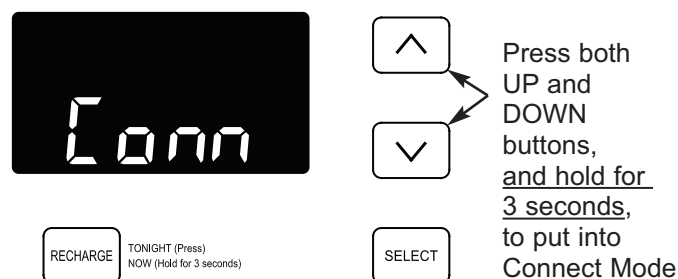

FIG. 33
3. On the water softener's front panel (see Fig. 33), press both the $\triangle$ UP and ∇ DOWN buttons, and hold them for 3 seconds.
4. Release the buttons when “Conn” appears in the display (See Fig. 33) and the connection status light above the control panel begins flashing amber.